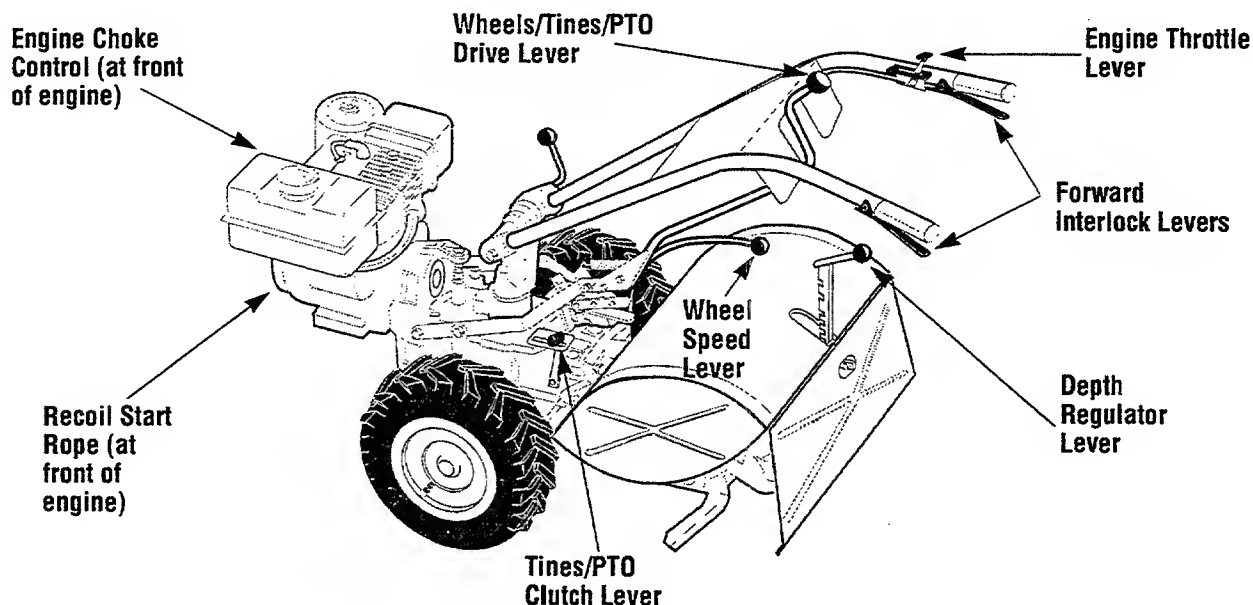

Figure 4-4: Tiller and engine controls.
1. With the engine off, place the Wheels/Tines/PTO Drive Lever in the NEUTRAL position (see Figure 4-4). If in the FORWARD position, tap or lift the lever up and then release it to obtain NEUTRAL.
2. Lower the Depth Regulator Lever (see Figure 4-4) until the tines are off the ground.
3. Move the Wheel Speed Lever (Figure 4-4) to either the SLOW or FAST position. *Be sure to roll the wheels while shifting the lever until the wheels are engaged.*
4. Put the Tines/PTO Clutch Lever in the DISENGAGE position (see Figure 4-4). (Use the ENGAGE position if you want the tines to revolve or to apply power to a PTO-driven stationary attachment.)